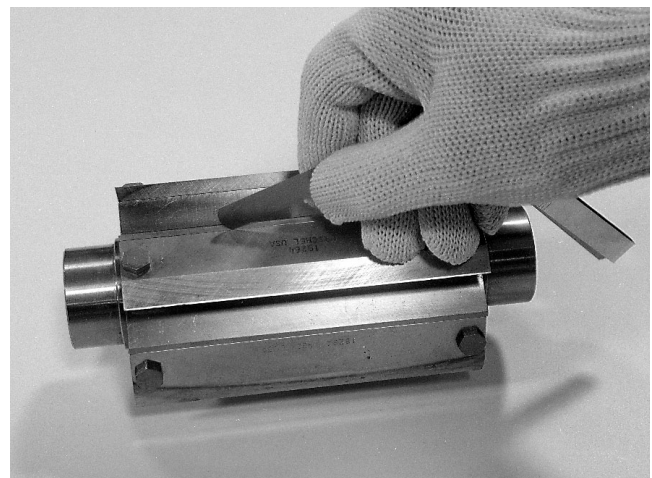

Figure 38 — Check with feeler gauge between knife and knife seat.
2. **Check knife installation.** A .0015" (.038 mm) feeler gauge should not slip in behind back edge of knife (Figure 38).